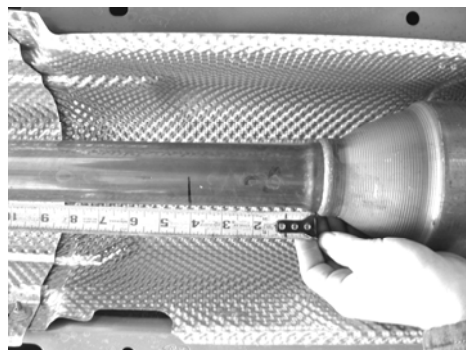

Figure 3
5. Using a reciprocating saw or a hacksaw, cut the exhaust 4 inches behind the catalytic converter as shown in figure 3. Remove any burrs from the pipe.